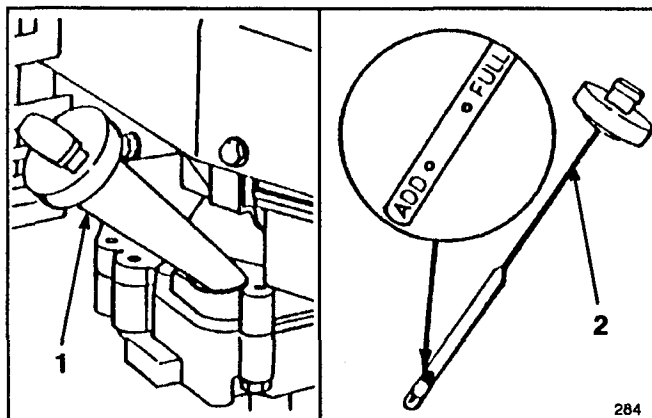

Figure 7
Fill crankcase with SAE 30 oil until oil level reaches FULL mark on dipstick as shown in Figure 7. The maximum crankcase capacity is 0.75 liters (25 ounces) of oil. Use any high quality detergent oil having the American Petroleum Institute (API) "service classification" — SF, SG or SH.
Before each use, ensure oil level is between ADD and FULL marks (Fig. 7). Add oil if level is low.
3. Wipe dipstick and insert it into filler neck. Rotate cap 1/4 turn. Then remove dipstick and check level of oil (Fig. 7). If level is low, add only enough oil to raise level to FULL mark on dipstick. **DO NOT FILL ABOVE FULL MARK BECAUSE ENGINE COULD BE DAMAGED WHEN STARTED. POUR OIL SLOWLY.**
1. **CHECK OIL LEVEL**—Maintain oil level between ADD and FULL range as shown on dipstick (Fig. 7). When cutting in dry, dusty conditions move the throttle to a slower speed to reduce the amount of dust generated by mower.